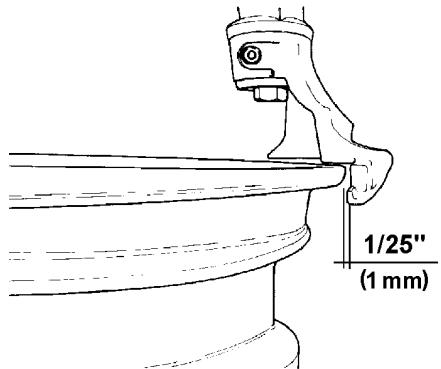

Fig. 4.1-4
E. Gently position the mount/demount head in contact with rim edge, now manually push the lock lever up and lock it into place. The mount/demount head automatically moves vertically up and away from the rim edge. Turn the swing arm adjustment knob clockwise until the mount/demount head moves horizontally away from the rim flange by approximately $1/16"$ (2mm): this is necessary to avoid any rim contact during the changing process. (Fig. 4.1-4).